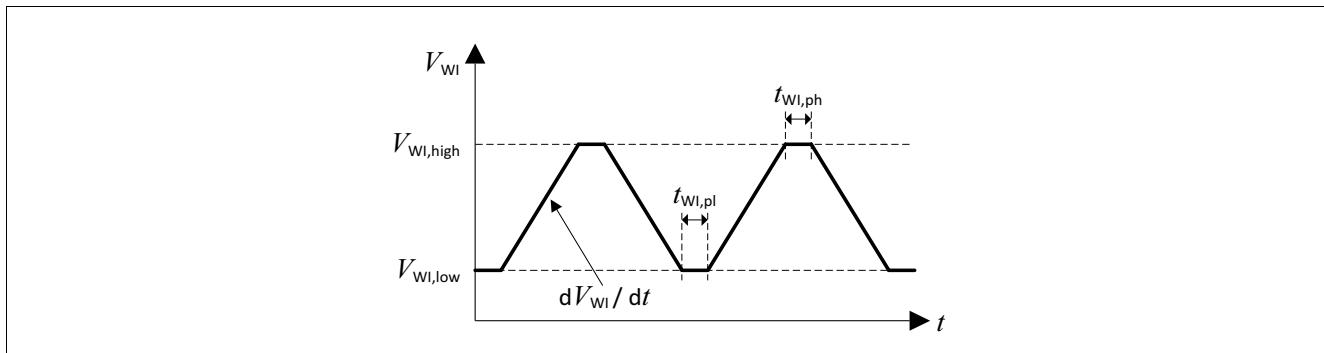

Figure 10 Test Pulses Watchdog Input WI
The watchdog is triggered by a falling edge at the watchdog input pin “WI”. The amplitude and slope of this signal has to comply with the specification (Table “Watchdog Input WI” on Page 26). For details regarding test pulses, see Figure 10 “Test Pulses Watchdog Input WI” on Page 25.
1) For details on applied test pulse, see Figure 10